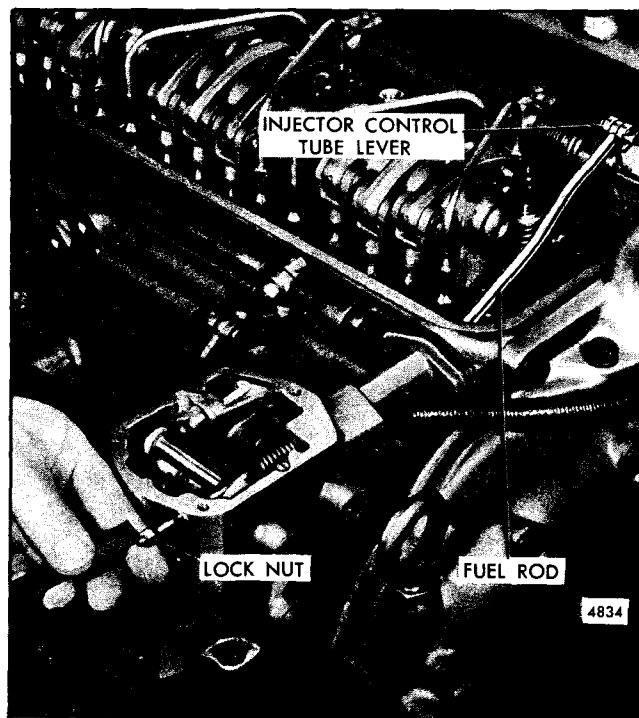

Fig. 1 - Adjusting Fuel Rod
2. Loosen the fuel rod lock nut (Fig. 1) and remove the fuel rod knob.